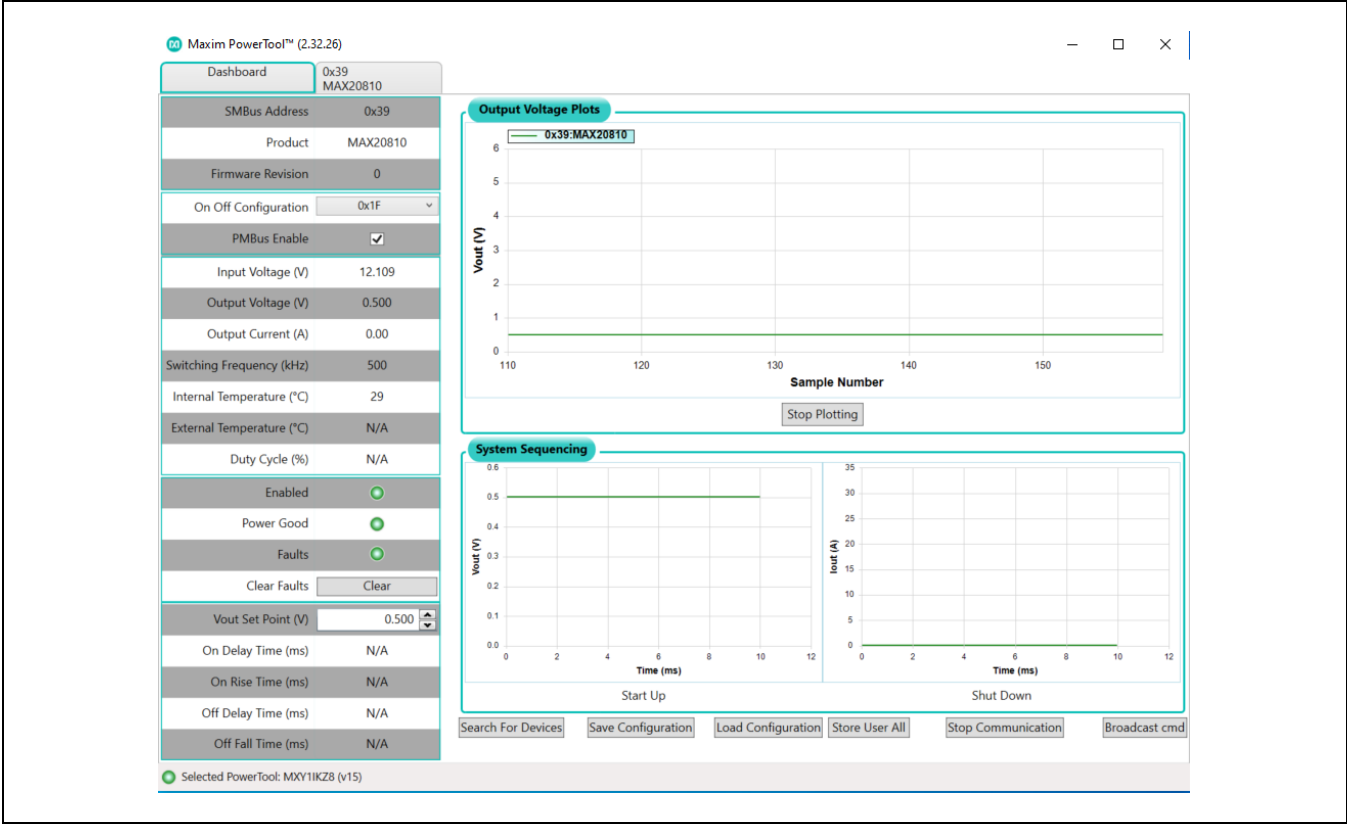

Figure 1. Maxim PowerTool Graphical User Interface Software Dashboard Window
9. Start the GUI software. The **Dashboard** window should appear as shown in Figure 1.